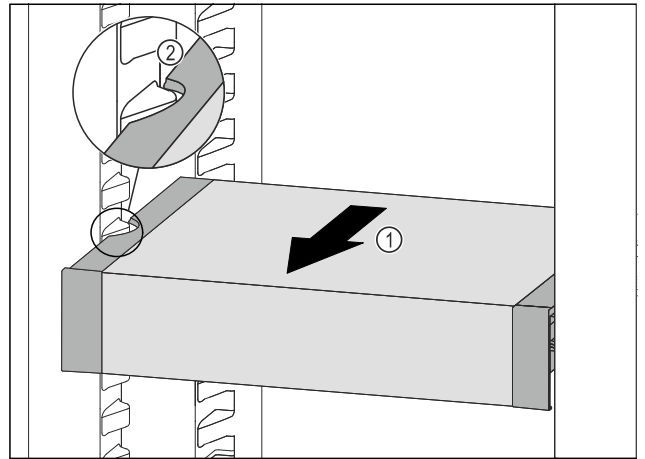

Fig. 160
- ▶ Pull VarioSafe forwards Fig. 160 (1) until the recesses in the side of the VarioSafe are at the level of the support rib in the fridge section. Fig. 160 (2)